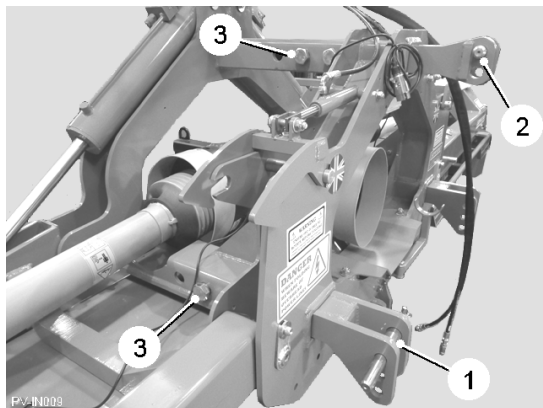

Fig. 1
Position the tractor lift arms so that the mounting pins (item 1, fig. 1) can be inserted through the lower hitch arms, and the tractor link ball ends. Fit the mounting pins, and secure using the clip pins. Adjust the top link length, and fit to the machine top hitch arm using the mounting pin (item 2, fig. 1). Secure using the clip pin. To keep the PTO shaft working angle as shallow as possible the top and bottom hitch arms may have to be adjusted in or out. To do this remove the locking bolts and spacers (item 3, fig. 1) and slide the hitch arms to the new position and re-secure.